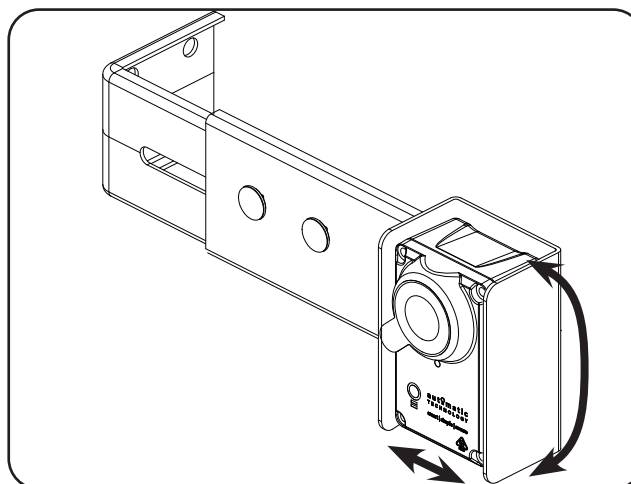

Fig.6.4.3
- Make horizontal and/or vertical adjustment on the transmitter and/or the receiver (Fig 6.4.3) until the red LED on the receiver turns on, indicating alignment.